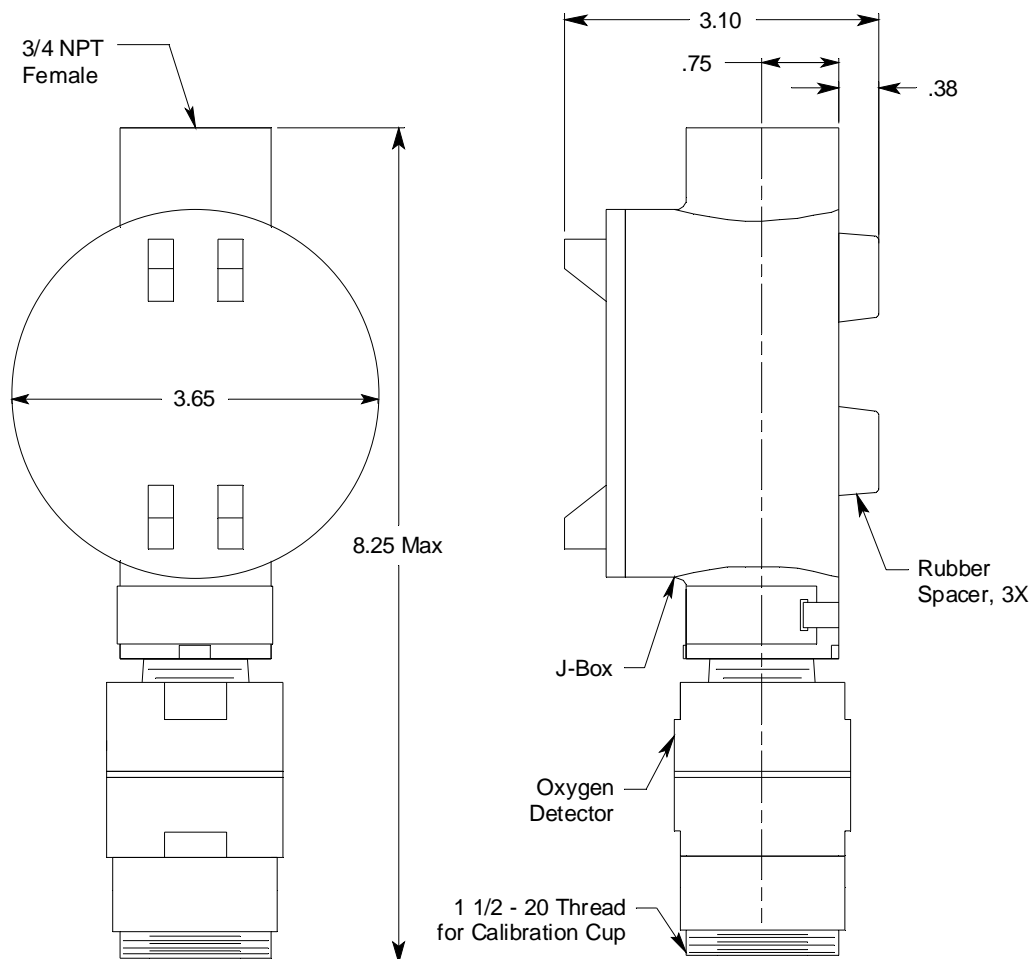

Figure 3: Mounting the Oxygen Transmitter
2. At the monitoring site you select, hang or mount the junction box with the detector facing down (see Figure 3).